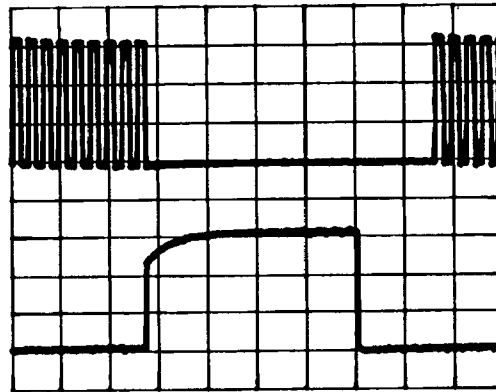

Figure 8-32. XA2A11B-30, LEFT
8. Connect channel 2 of the oscilloscope to XA2A11B-30, LEFT. The waveform should be as shown in figure 8-32.